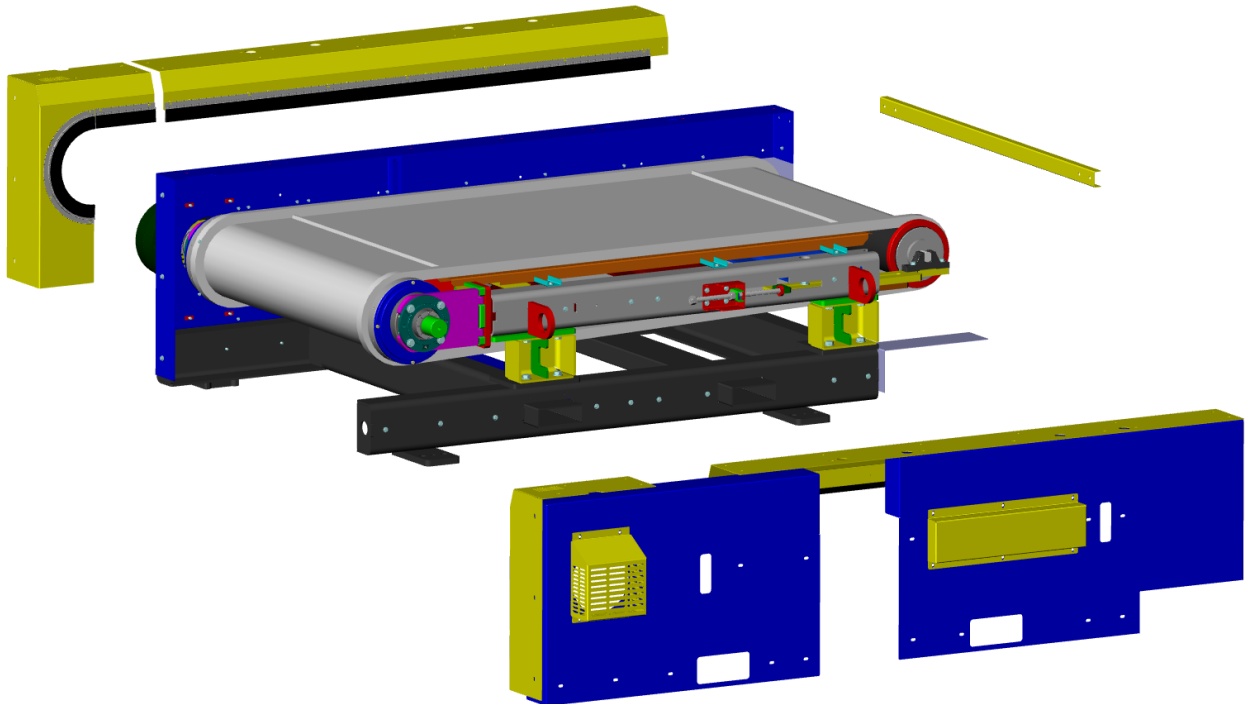

Figure 1
2. Remove back brace, drive side top guard and all guarding non-drive side of unit. Brush assemblies can remain attached to the top guards; non-drive top guard can remain attached to the side guard. All fasteners are 3/8-16 hex head cap screws. See **Figure 1**.